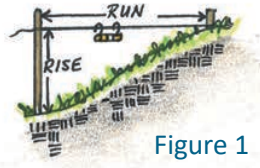

Figure 1
STEP 1 – Determine slope. Find the slope of the land where the water bars will be located. Follow the steps below to determine slope. See Figure 1.
- Place one stake at the uphill end of the slope and another at the downhill end (Figure 1).